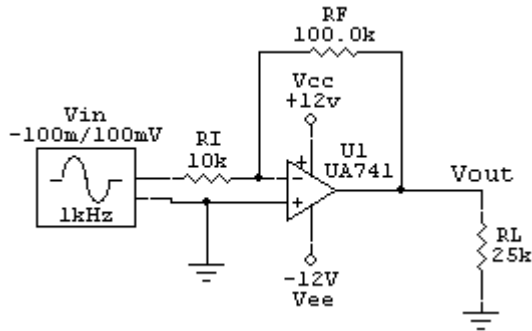

Figure 3.14. A 10X Amplifier Circuit. In this configuration, voltage gain =  $RF/RI$ .
The next example demonstrates how to use all of the analyses and how to take simple measurements using the cursors in the analysis windows. Let's create a basic 10X amplifier circuit using a  $\mu$ A741 Op Amp as shown in Figure 3.14.
- 15 Click and drag the labels so they are positioned as shown on the schematic in Figure 3.14.